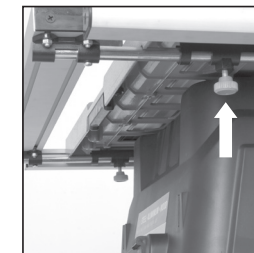

FIG. 28
- Loosen the two locking knobs (one to the front and one to the rear of the machine) underneath the LH side of the machines table. (**Fig. 28**)